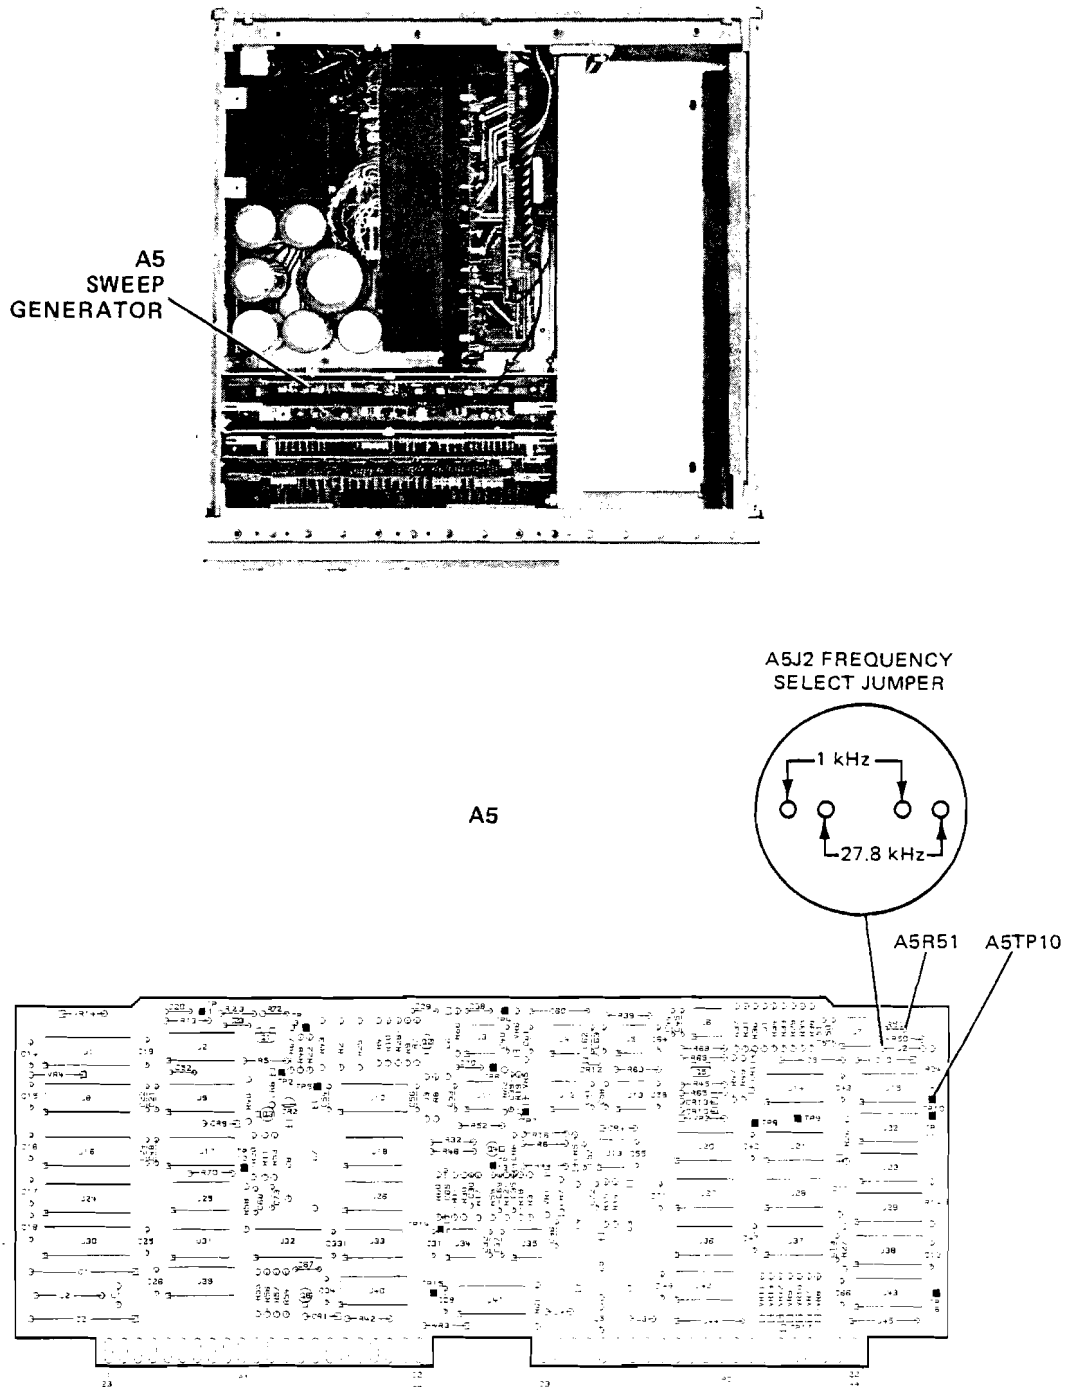

Figure 5-15. Location of 27.8/1 kHz Oscillator Adjustment.
4. Set the 8350A LINE switch to OFF, remove the A5 Sweep Generator assembly and set the frequency select jumper A5J2 to the 1kHz position. Refer to Figure 5-15 for A5J2 jumper location. Replace the A5 Sweep Generator assembly in the 8350A mainframe.
5. Connect the equipment as shown in Figure 5-15.
9. Set the 8350A LINE switch to OFF, remove the A5 Sweep Generator assembly and set the frequency select jumper A5J2 to the 27.8 kHz position. Refer to Figure 5-15 for A5J2 jumper location. Replace the A5 Sweep Generator in the 8350A mainframe.